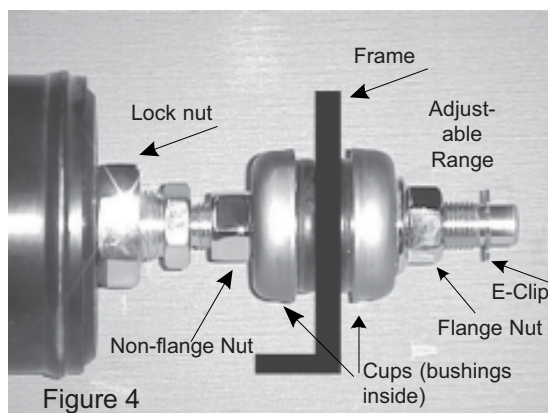

Figure 4
- Prepare both shocks for mounting by threading the supplied non-flanged nuts all the way onto the stud mounts, followed by a supplied bushing-cup, bushing, and sleeve (fig.4).
- Once you have installed the other bushing, bushing-cup, and flanged nut you can now install the safety E-clip. This E-clip is snapped into the groove near the end of the stud mount where the threads stop. This is to serve as a reference point ONLY – when the flanged-nut reaches it you have lowered your ride height the maximum 2 inches. DO NOT torque the flange-nut against the E-clip (fig.4).
Your new 422 Series shocks with RAP have adjustable ride height and are capable of Stock to 2" lower ride height. Per the installation instructions, your shocks should be at stock ride height initially. The ride height adjustment can be done with the shocks on the bike, and removal is not necessary. It is important that the locknut on the preload adjusting plate is securely tightened (refer back to fig.4).